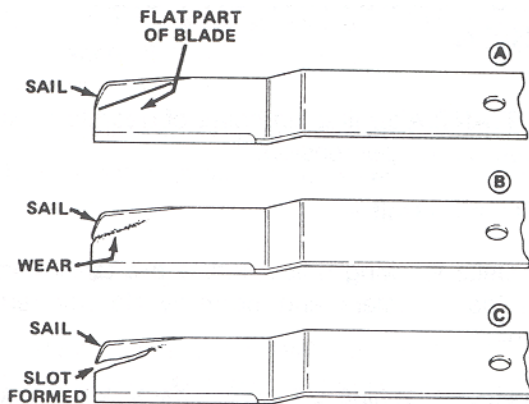

Figure 65
2. Carefully examine cutting ends of the blade, especially where the flat and sail (curved part) meet (Fig. 65-A). Since sand and abrasive material can wear the metal connecting the flat and sail portions, check the blade
before using the machine. If any wear is noticed (Fig. 65-B), replace the blade; refer to Removing the Cutting Unit Blade, page 51.